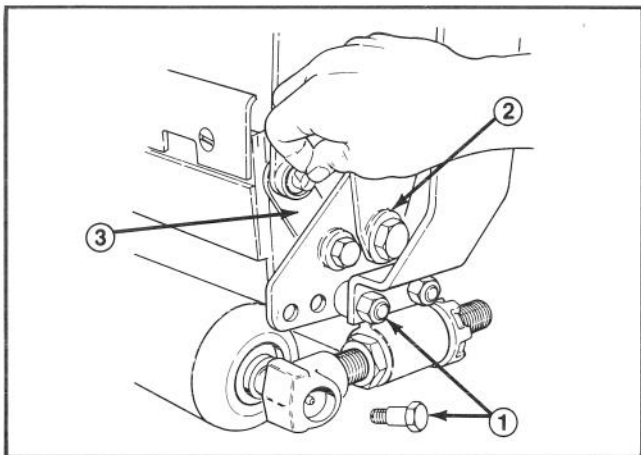

Figure 23
1. Remove the shoulder bolts, bushings and spacers from each end of the unit and remove the bedbar/bedknife assembly (Fig. 23).